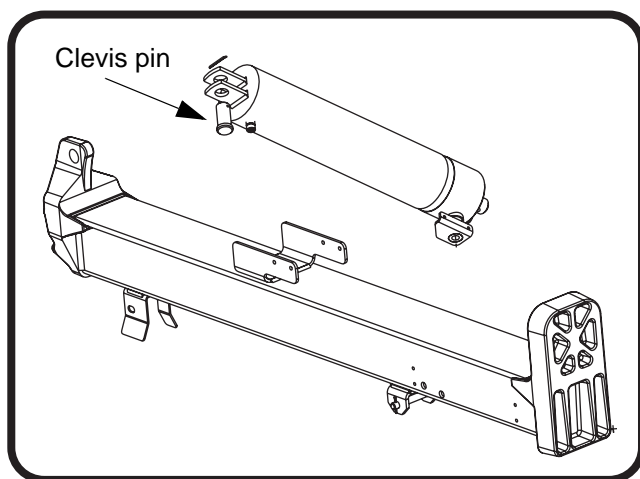

Figure 6.7
**NOTE:** The 33 ton models have a clevis pin held in place by a cotter pin at the base of the cylinder that must be removed. See Figure 6.7.